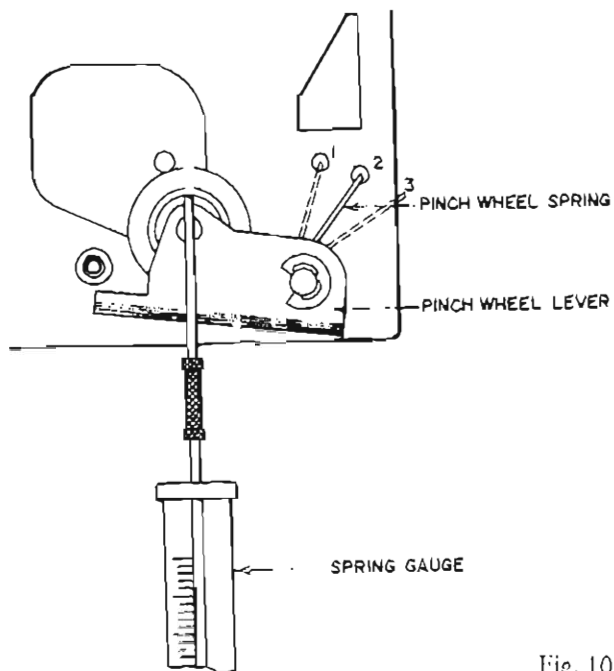

Fig. 10
- 1) With recorder at playback mode, connect a 0 to 500 gram Spring Gauge to the pinch wheel lever as shown in Fig. 10 and measure the pinch wheel pressure.